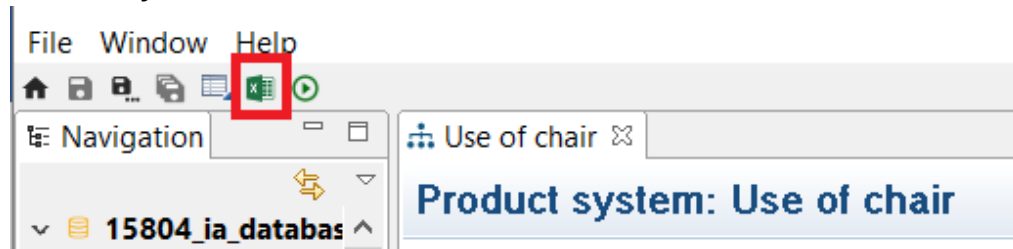
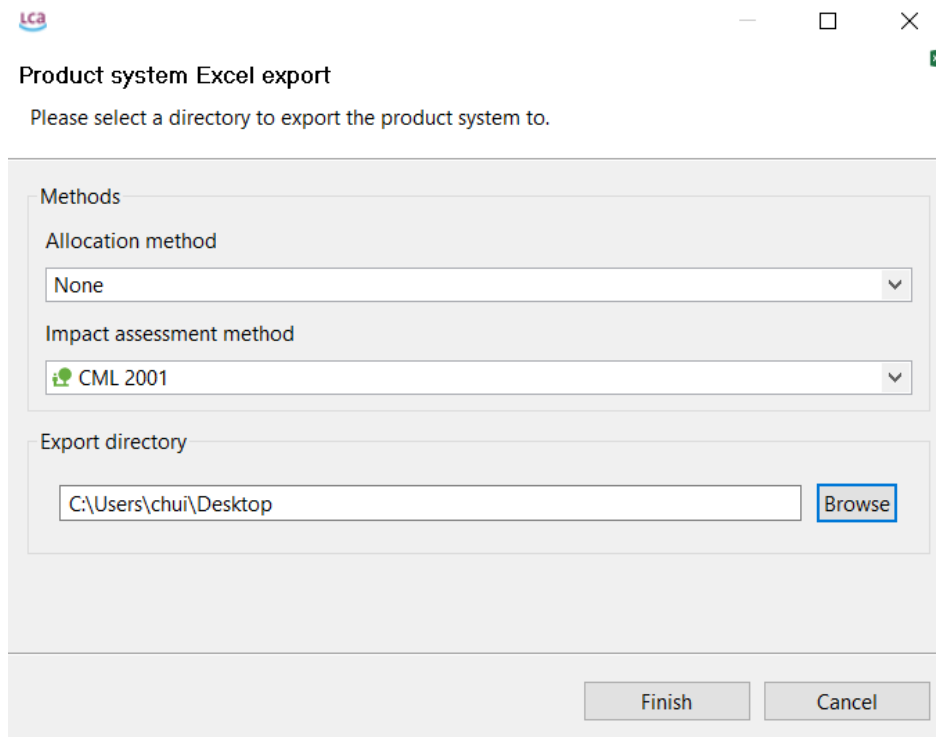

Figure 41: Exporting product system as excel file, step 1
Figure 42: Exporting product system as excel file, step 2
- To export product systems as excel first select the product system in the Navigator to open it up in the Editor. You can then select the excel export icon in the top left-hand corner (Figure 41). The product system excel export wizard will open. The "Methods" section can be filled out or left blank. Select an export directory and click "Finish" (Figure 42). A folder with one excel file for Elementary Flows and one for Product Flows will be saved.